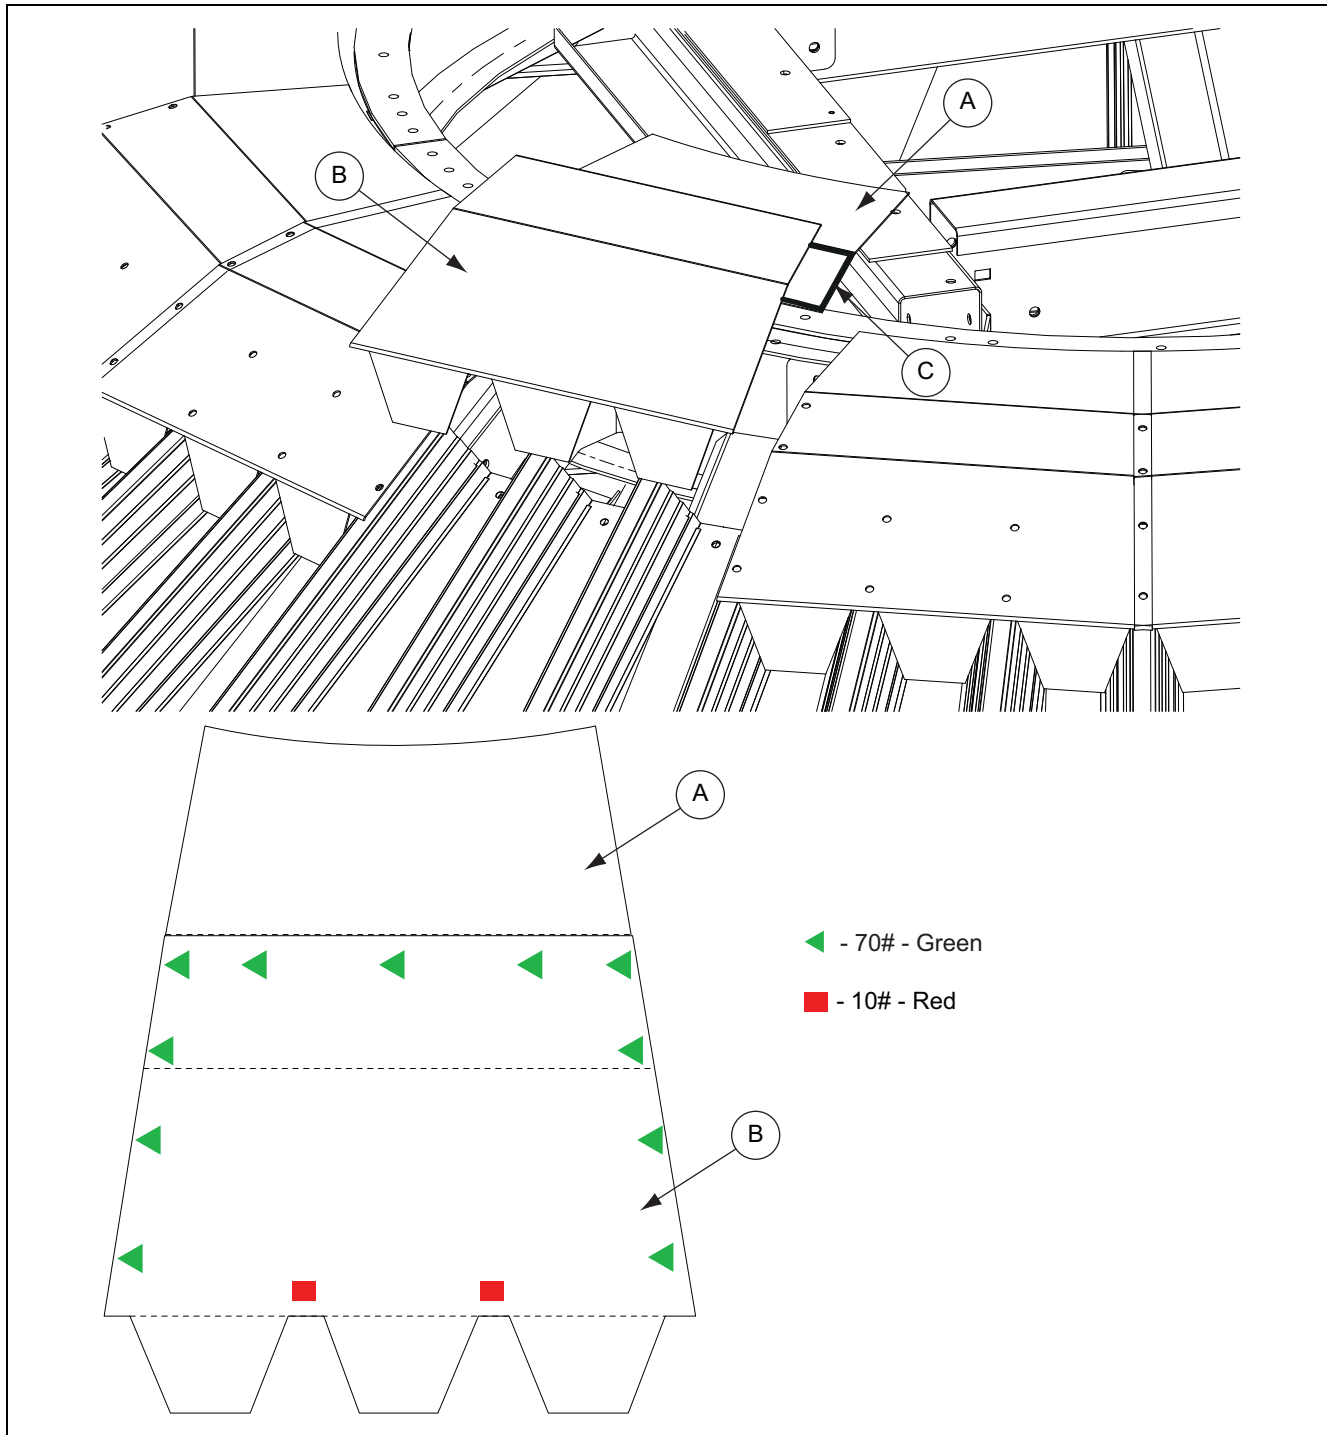

Figure 5 Installing the Vent Flashing
5. Install all the screws to tighten the flashing pieces. \(See Figure 5 on Page 7.\)